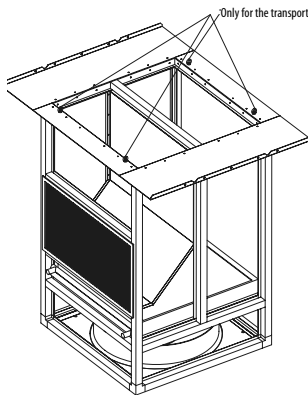

Fig. 7 Position of the transport handles in the indoor unit
- dismantling the eyebolts intended for carrying the indoor unit (Fig. 7),